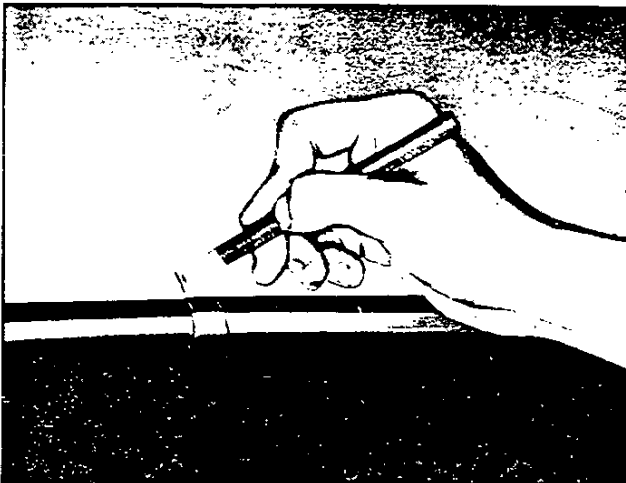

Fig. 67-Marking Molding Position
2. Mark position of right-hand upper reveal molding end (fig.67) and pry out from retaining clips. Repeat for left-hand and lower molding assemblies.
3. Remove lower (inside) garnish molding by removing four (4) nuts from fixed studs and carefully pulling molding outward.